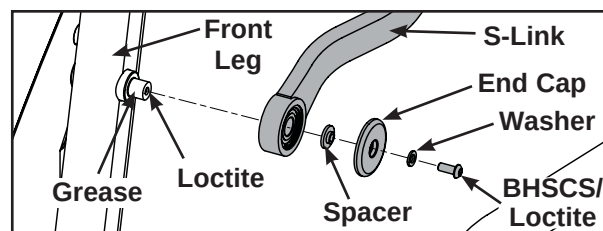

Figure 6
A. Using a 5/32" Allen wrench, remove the BHSCS, washer, plastic end cap and spacer securing both S-link of the handles to the front legs. See Figure 6.
- A. Place grease on the outside of shaft. See Figure 6.
- B. Place a drop of loctite (E) on the BHSCS removed in step 8A and another drop inside the shaft into where each BHSCS will be tightened. See Figure 6
- C. Install the BHSCS/loctite, washer, pastic end cap and spacer (removed in 8A). See Figure 6.